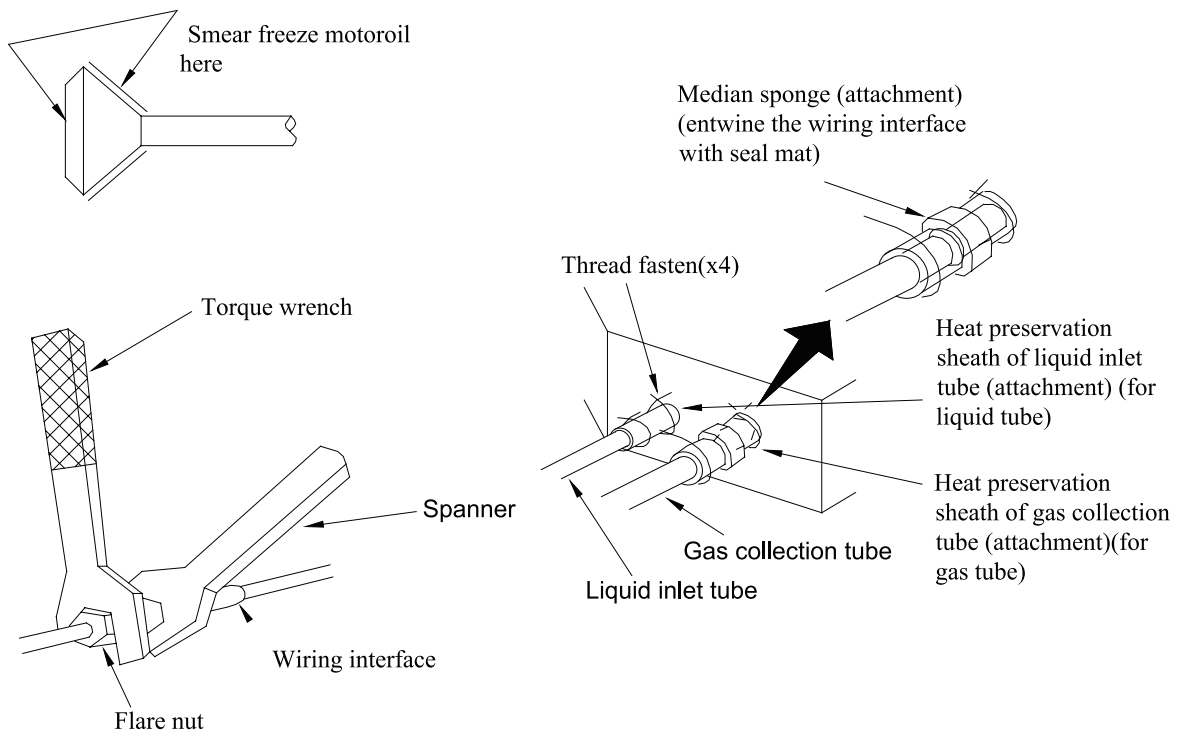

Fig.22
- When connect the pipe to the unit or backout it from the unit, please do use both spanner and torque wrench. As shown in Fig.22.
- Examine the connection pipe to see if it had gas leakage, and then take the treatment of heat insulation, as shown in the Fig.22.
1. Set the panel to the indoor unit body by matching the position of the swing flap motor of the decoration panel to the piping position of the indoor unit as shown in Fig.22.